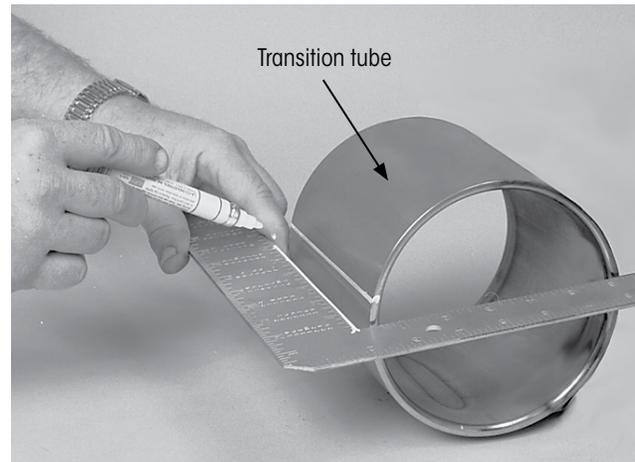

Figure 29: Drawing an orientation line on transition tube
1. Using a square, **scribe or draw** a line on the transition tube (Figure 29). This line will be used to properly orient the bushing during installation.